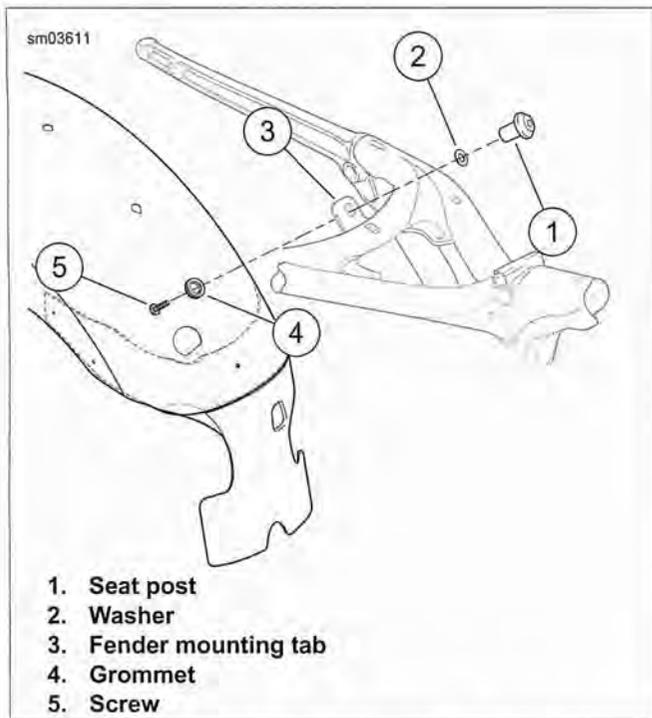

Figure 2-209. Seat Post/Rear Fender Mount Hardware
17. Have an assistant hold rear fender in place. See Figure 2-209. Remove seat post (1), washer (2) and screw (5). Remove rear fender from vehicle, being careful not to damage paint. Lay rear fender on a soft, clean surface.
4. See Figure 2-209. With assistant holding rear fender in place, install screw (5) through fender and frame tab.
- a. See Figure 2-209. Tighten screw (5) and seat post (1) to 96-156 **in-lbs** (10.9-17.6 Nm).